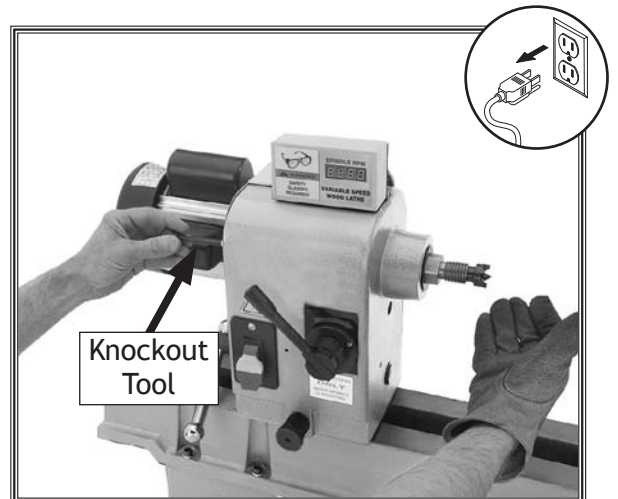

Figure 19. Removing the headstock center.
3. Insert the knockout tool through the outboard end of the spindle and firmly tap the center, catching it as it falls (see Figure 19).